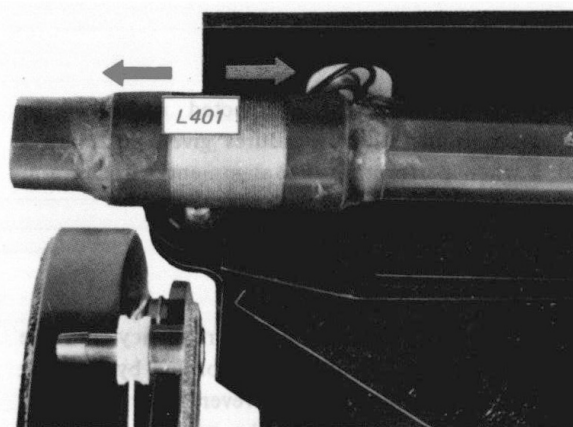

Fig. 5-20. Antenna coil
- Tune the set to the station whose carrier frequency is closest to 620 kHz and adjust the position of antenna coil L401 as shown in Fig. 5-20 to obtain maximum output.